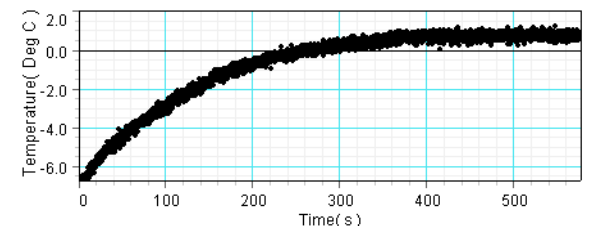

Figure 6: Melting ice
- Take a block of ice directly from a freezer and record the temperature as it warms and melts. Display the data on a temperature versus time graph (Figure 6).